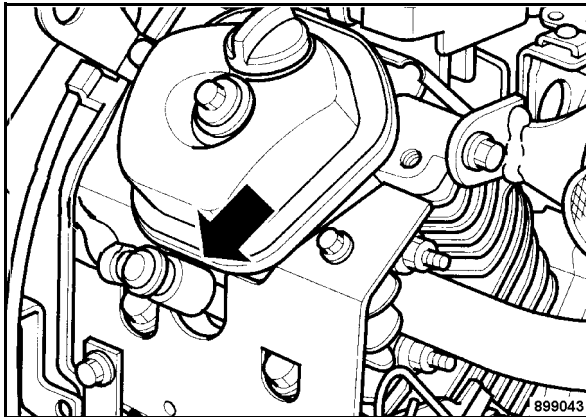

Fig. 73
- Pull the spark plug socket off and unscrew the spark plug (Fig. 73).